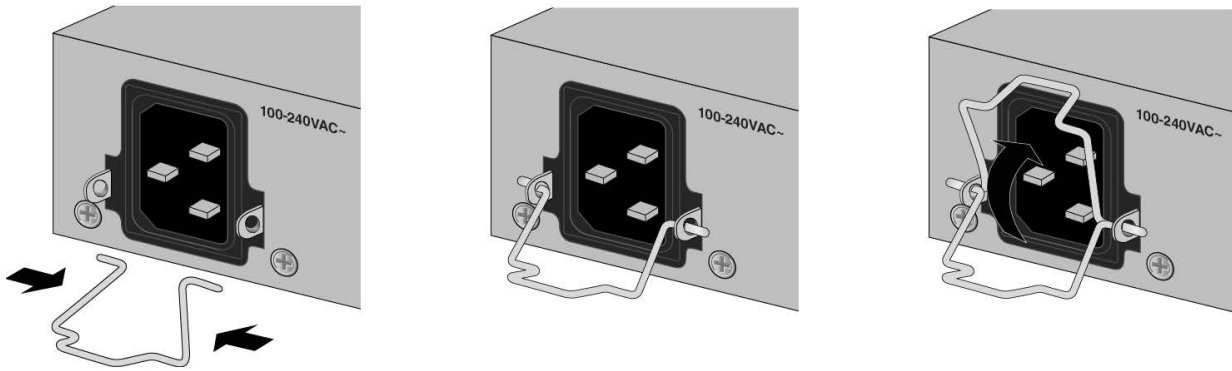

Figure 64. Installing the Power Cord Retaining Clip on the PWR300 Power Supply
1. Install the power cord retaining clip on the AC power connector on the front panel of the PWR300 power supply. Refer to Figure 64 on page 126.